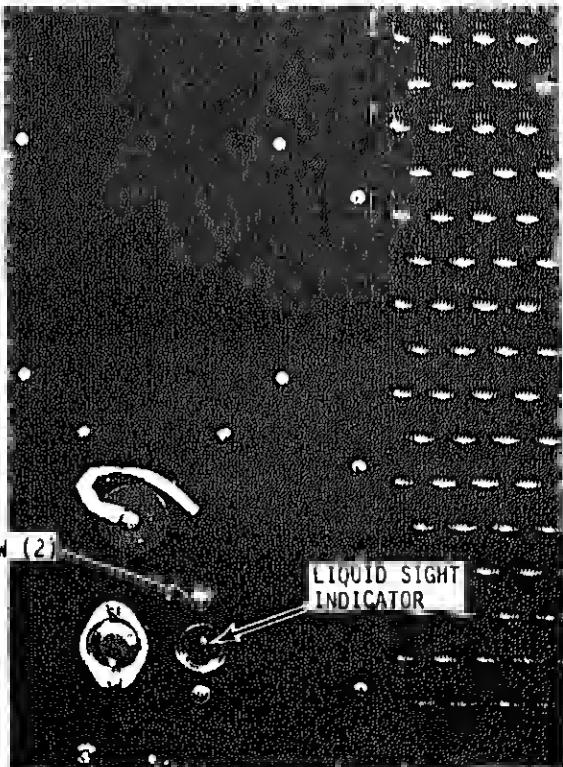

Figure 5-9. Liquid sight indicator removal and installation
a. General. The liquid sight indicator provides a heavy glass plug hole to give visible indication of refrigerant flow. Figure 1-2 shows the location and figure 5-9 is a closeup view.
(4) Refer to figure 5-9 and remove the liquid sight indicator mounting plate.
(5) Unsolder the liquid sight indicator from the refrigerant system tubing.
(1) Refer to figure 5-9 and install the liquid sight indicator and mounting bracket.